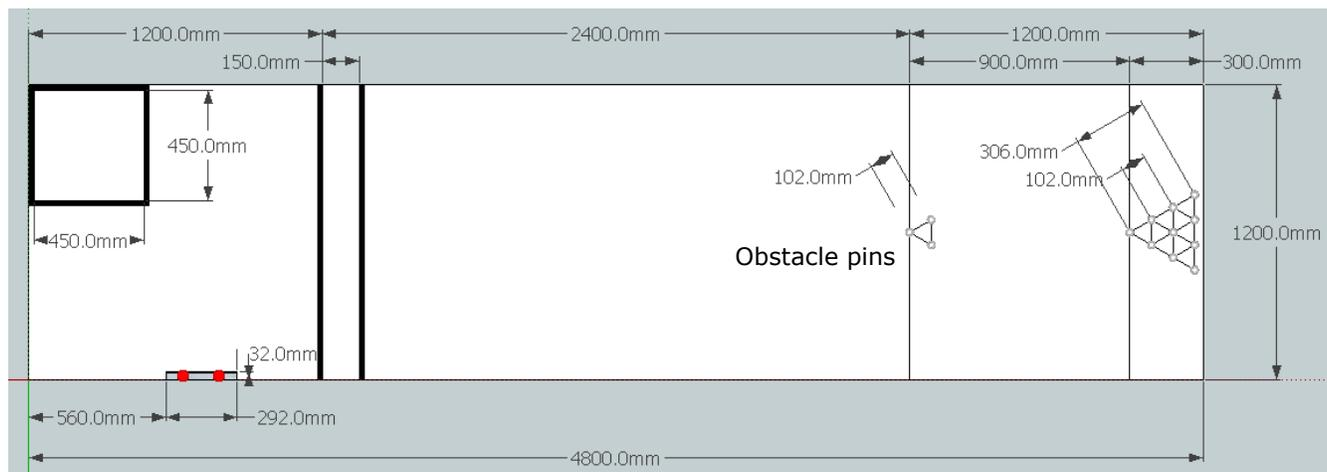

Figure 3 Layout of lane and pins in final game 5 (± 5 mm)
2.3. Final round: There are five games in the final round. In the first and second games, bowling pins placed as illustrated in figure 1. In the third and fourth games, bowling pins are placed as illustrated in figure 2. In the fifth game, **an extra three identical bowling pins will be placed at the marked obstacle pin locations 900 mm in front of the 10 pins**, while the number of points will be calculated according to the ordinary rules of bowling, after the conclusion of each game, 5 points will be subtracted for each obstacle pin knocked down, to a minimum of 0 points for that game.(figure 3)